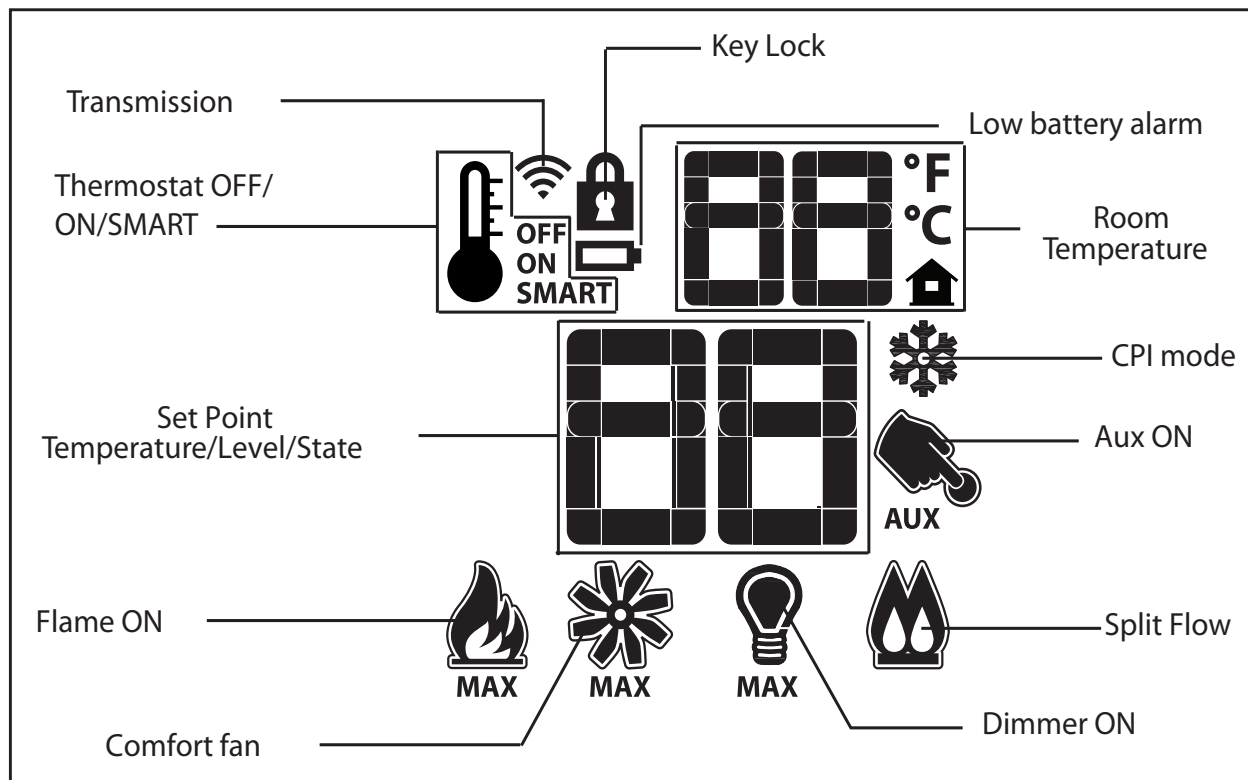

Figure 5: Proflame 2 Transmitter LCD Screen.
The Proflame 2 Transmitter is a black remote control with a blue backlit lcd display. It uses a streamline design with a simple button layout and informative lcd readout (Figure 5). The Transmitter is powered by three (3) AAA type batteries. A Mode Key is provided to Index between the features and a Thermostat Key is used to turn on/off or index through Thermostat functions (Figure 4 & 5)